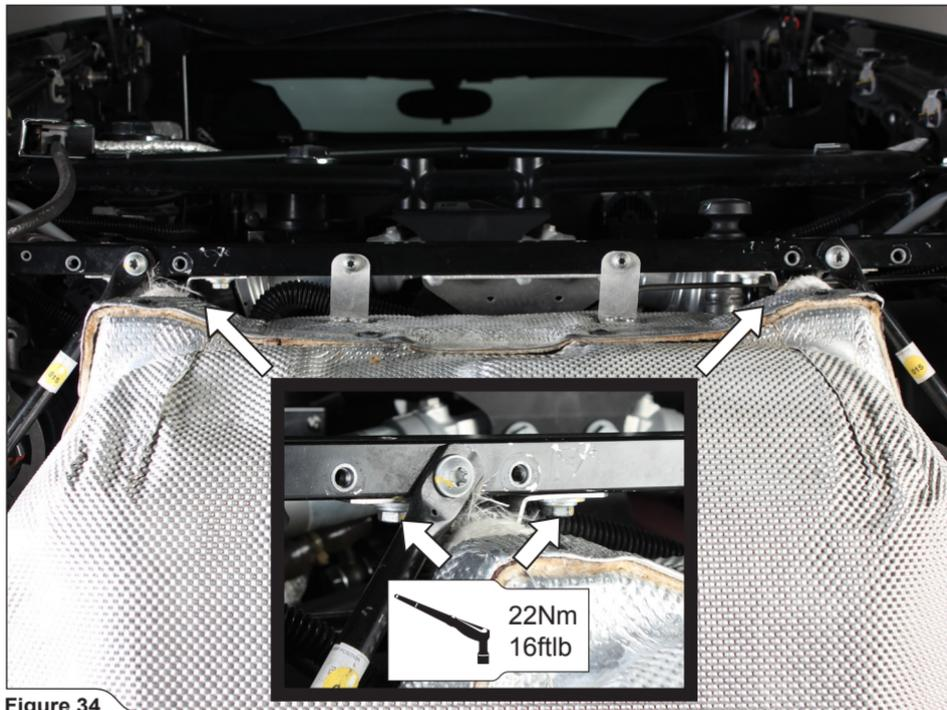

Figure 34
9. Retighten the upper muffler's brackets chassis bolts (Figure 34).